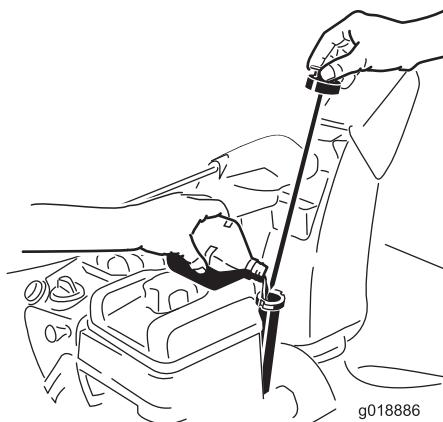

Figure 14
1. Remove the dipstick and **slowly** pour oil into the oil fill tube to raise the oil level to the Full mark on the dipstick. **Do not overfill.** (Figure 14).